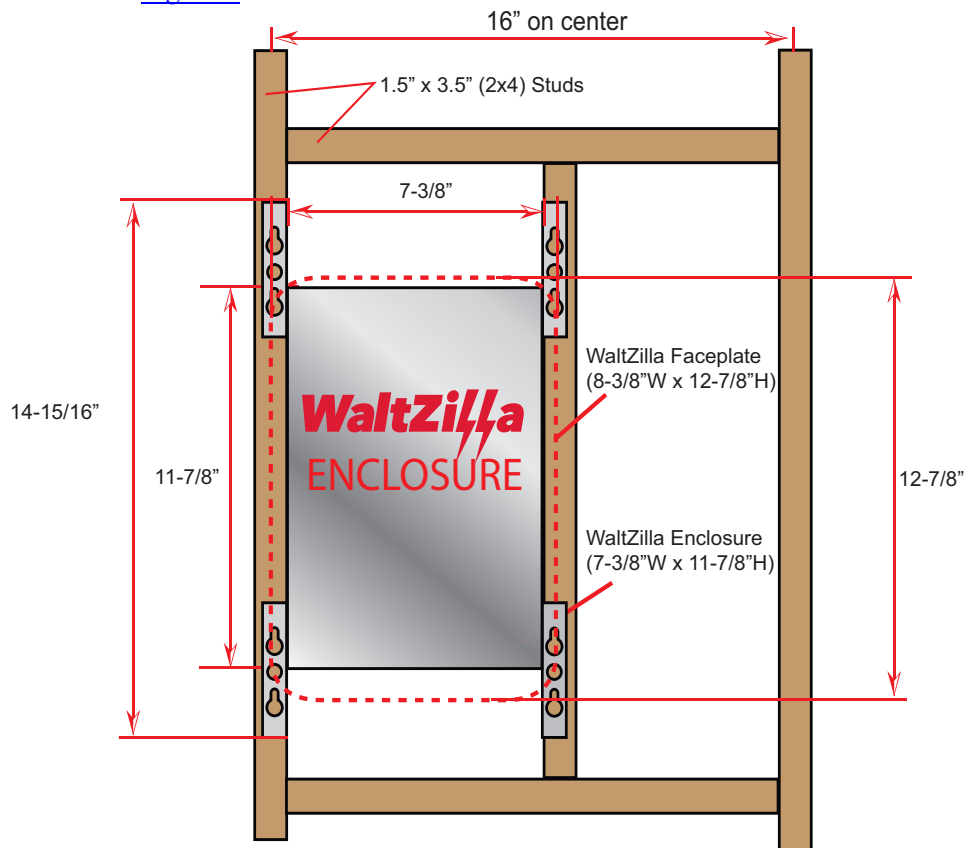

Figure 3. WaltZilla Mounting
You can install the WaltZilla enclosure between two wall studs, either in a new installation. A typical installation is shown in Figure 3.
- a. Study the illustration in Figure 3 to determine the size and location of the WaltZilla installation.
3. Using Figure 3 as a guide, install and secure 2x4 studs as necessary to allow WaltZilla to be secured to two vertical wall studs. Figure 3 shows one possible configuration in which a vertical wall stud is located between two existing vertical studs and supported by horizontal studs below and above it.